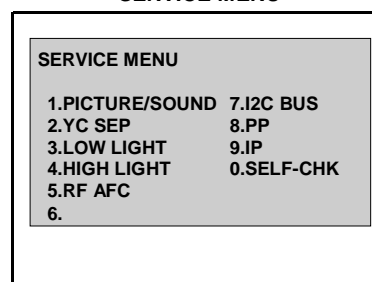

Fig.1
2) The SERVICE MENU screen of Fig.1 is displayed.
3) Verify what to set in the SERVICE MENU, and set whatever is necessary (Fig.1).